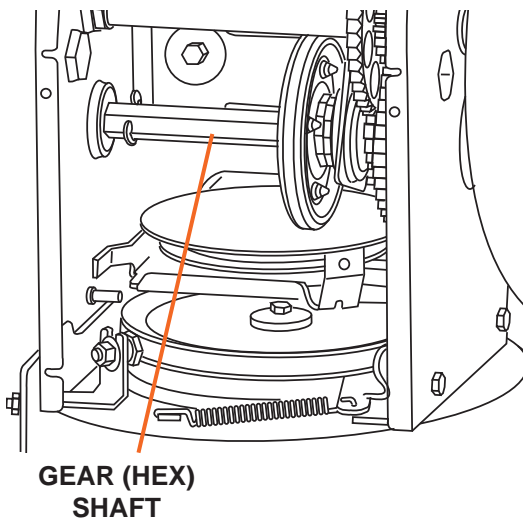

Figure 13
2. Apply a light coating of an all-weather multi-purpose grease to the hex shaft (see Figure 13).